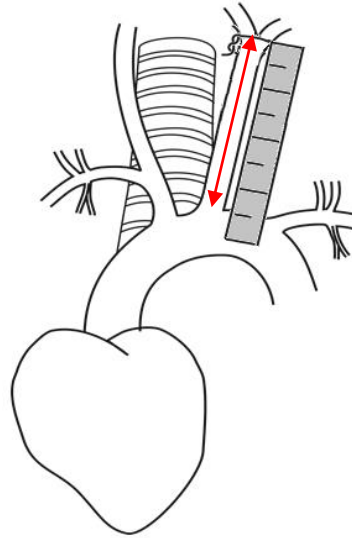

Figure 4: Measure from suture to top of arch
- 15) Measure in millimeters from the carotid bifurcation suture to the junction of the carotid artery and aortic arch. Record this measurement. (Figure 4)